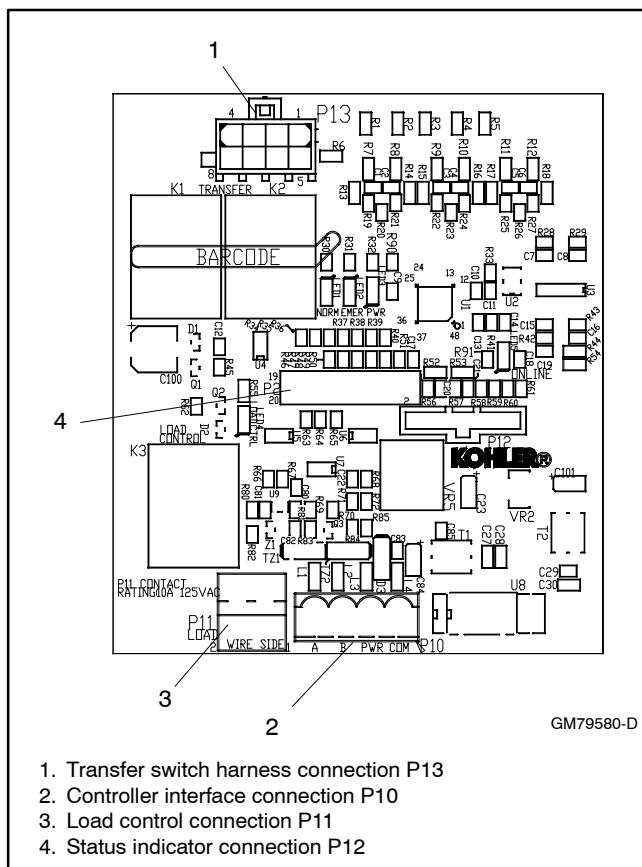
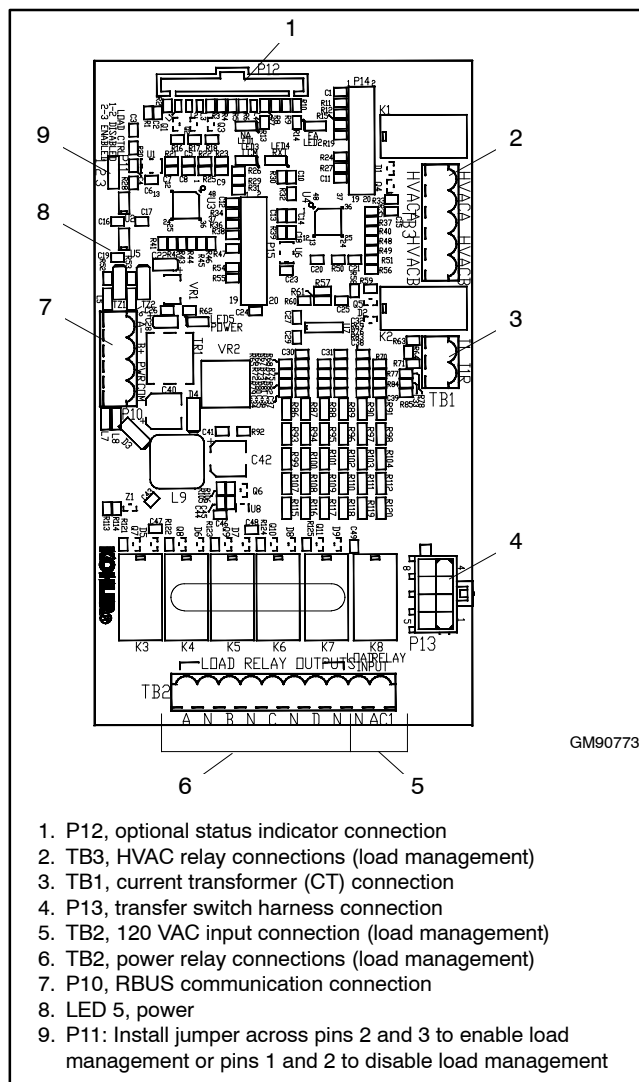
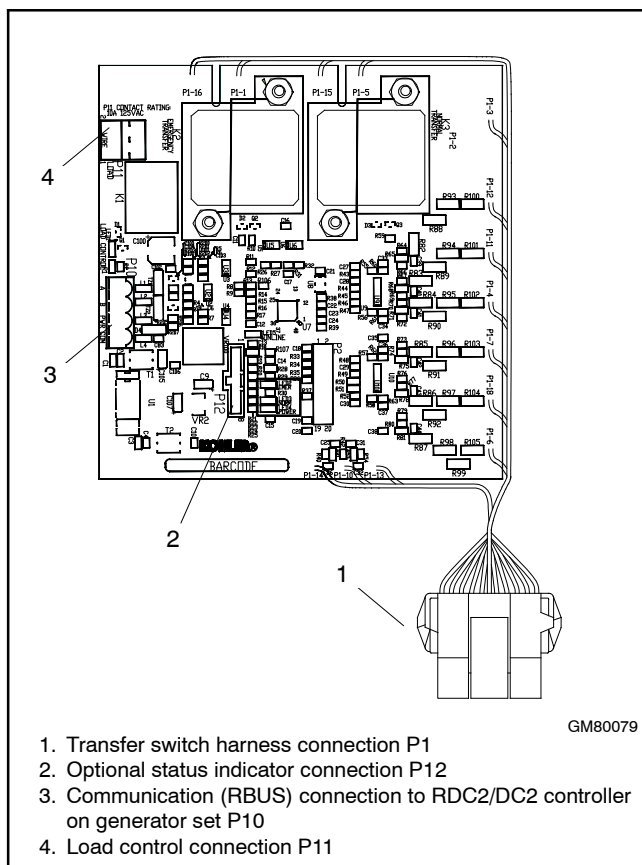

Figure 7-1 Single-Phase Interface Board
Figure 7-3 Combined Interface/Load Management Board (1 Phase)
Figure 7-2 Three-Phase Interface Board
7. Disconnect all connections to the circuit board. See Figure 7-1 for the standard single-phase board, Figure 7-2 for the three-phase board, or Figure 7-3 for the combined single-phase interface/load management board.